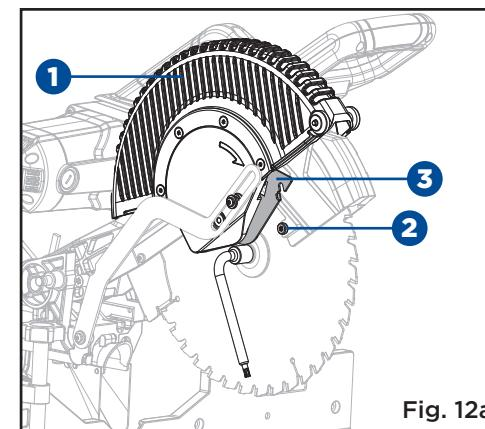

Fig. 12a
REMOVING AND INSTALLING THE BLADE (Fig. 12a-12c)
- Swing the guard plate (3) up and out of the way (Fig. 12a).